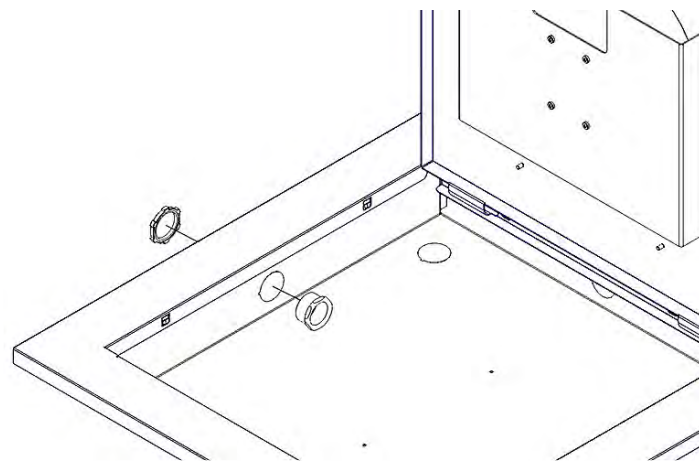

Figure 2 - Conduit Fitting Installation
Step 1 – Place the *ceiling enclosure assembly* on the work. Determine which knockout is to be used to bring in the Ethernet cable and remove the knockout. (Ref. *Figure 2*). Install the conduit fitting from the inside of the enclosure. Insert the conduit fitting through the hole with the nut installed from the outside of the enclosure. If using Power Over Ethernet (P.O.E.) use 1 conduit fitting. If P.O.E. is not being used, install an additional conduit fitting (not supplied) in separate knockout and bring power and Ethernet into the enclosure through separate fittings (Ref. *Figure 2*).